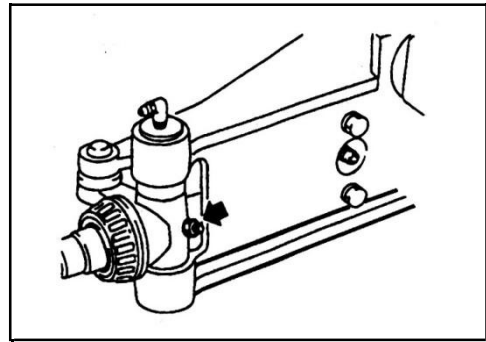

Fig. 2-2
- (1) Remove rod.
- (2) Loose lock bolts. (See fig.2-2);
- (3) Remove grease nipples on kingpin.
- (4) Remove kingpin.